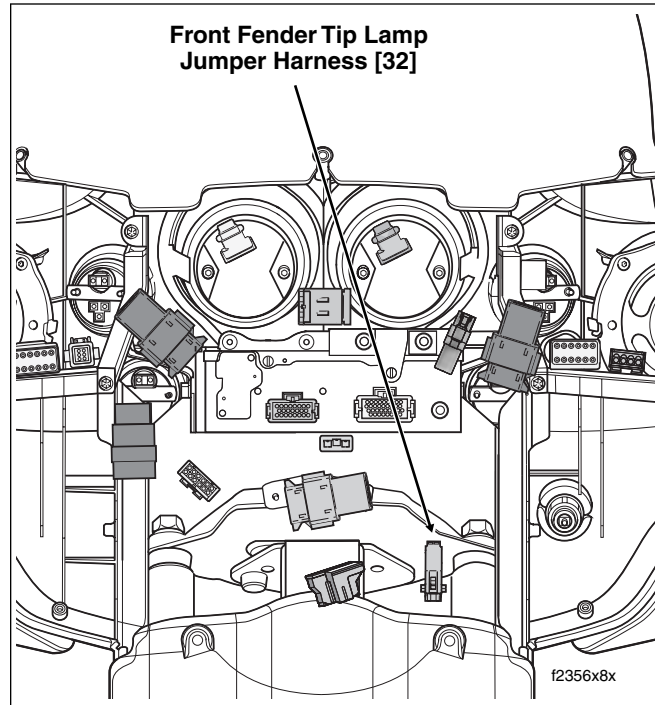

Figure 2-188. Inner Fairing (FLHT/C/U)
1. **FLHT/C/U:** Reaching in below the fairing cap on the left side of the steering head, disconnect front fender tip lamp jumper harness connector [32], 2-place Multilock. See Figure 2-188. Remove the outer fairing only if necessary. See Section 2.30 UPPER FAIRING/WINDSHIELD (FLHX, FLHT/C/U), OUTER FAIRING/WINDSHIELD, REMOVAL.